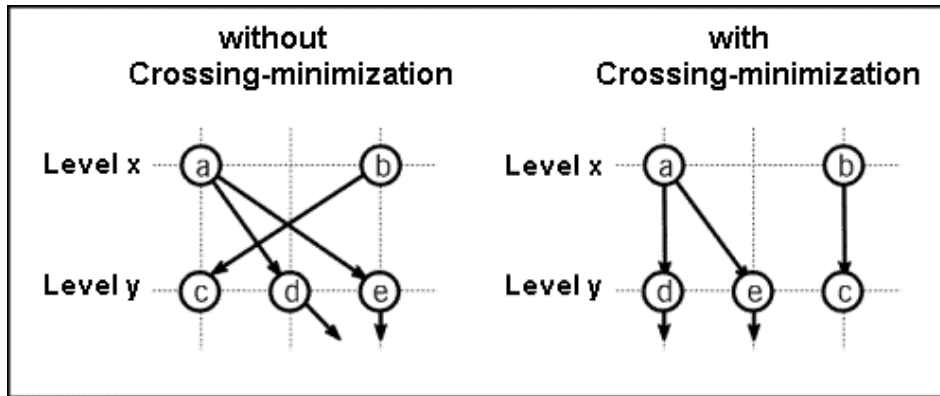

Figure 134: Schematic representation - Crossing-minimisation
- **Crossing-minimisation:** the objects assigned to layers can be moved within the appropriate layer in order to minimize the number of crossings of relations (see fig. 134, p. 168).